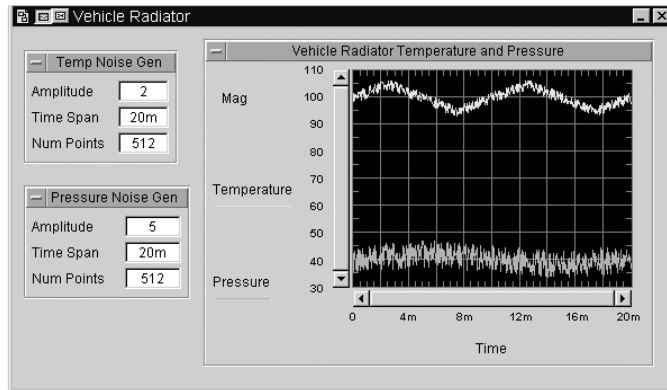

Figure 8.9. Vehicle Radiator operator interface
15. Select Menu Bar => Edit => Add to Panel; the selected objects will appear in a Panel View; move these icons and size the interface box to appear as shown in Figure 8.9.
16. Save Lab 8-4 again; run this program to verify the displays in Figure 8.9.